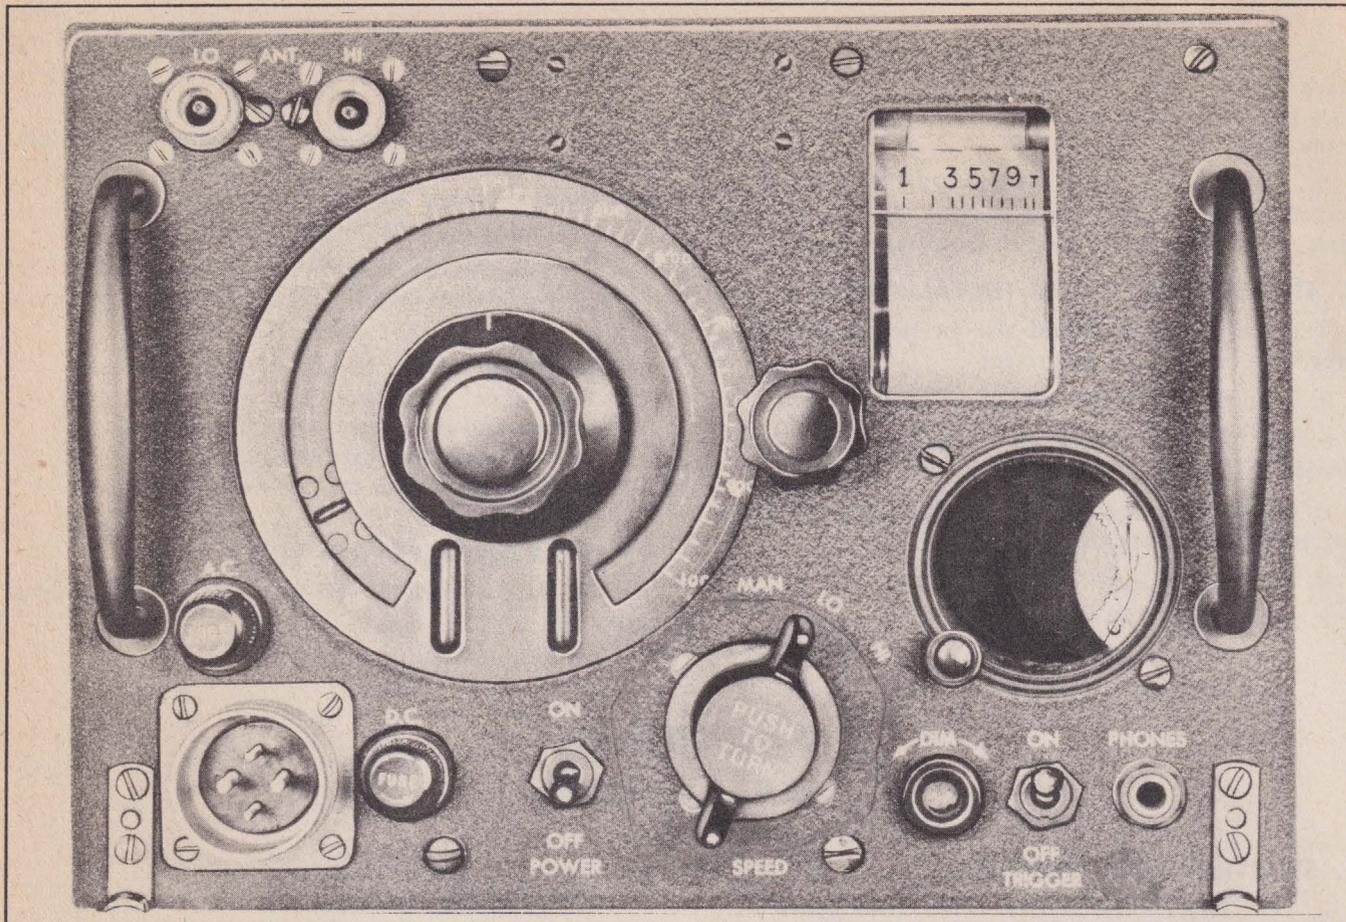

Figure 3-1. Radar Receiver R-34/APR-2—Front Panel View
- a. TO START THE EQUIPMENT. (See figure 3-1.)
- (1) Turn "POWER" switch to the "ON" position.
- (2) Set "SPEED" switch to "MAN" position immediately.
- (3) Check if the pilot lamp lights and listen for operation of motor.
(See figure 3-1.)